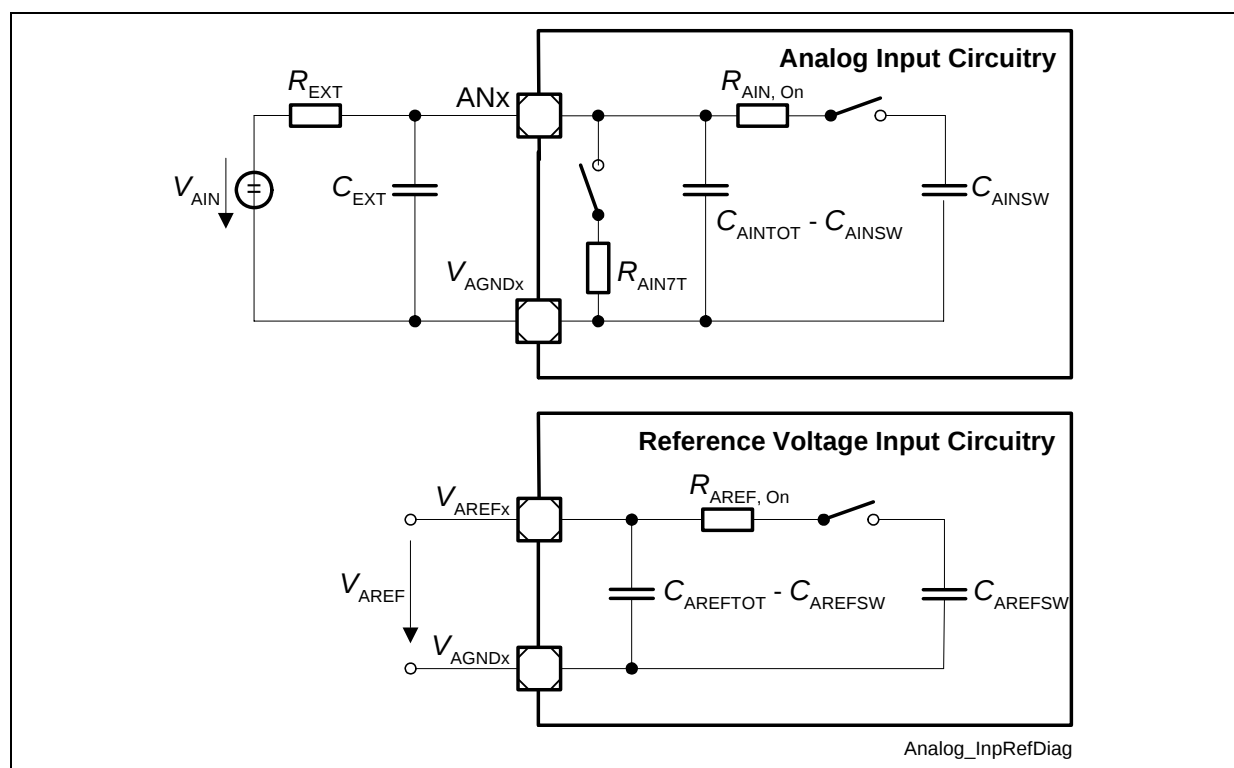

Figure 18 ADC0/ADC1 Input Circuits
- 16) For the definition of the parameters see also Figure 18.